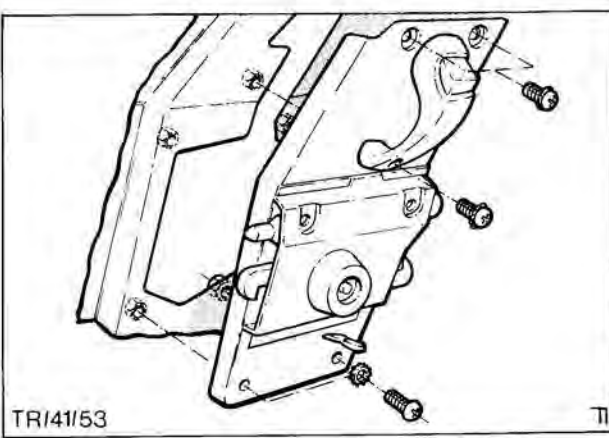

Fig. 36. Sliding lockplate and handle to door
2. Remove six screws and washer assemblies securing lockplate and interior handle assembly to door and remove assembly, Fig. 36.